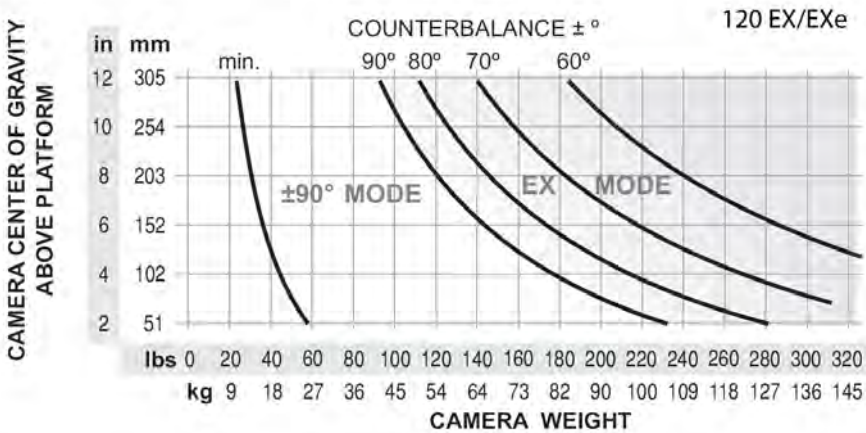

Figure 3 Counterbalance graph
Maximum and minimum payloads that can be balanced—and tilt ranges—are dependent on the weight of the camera and accessories and on the center of gravity (C of G) height. The balance graph (see Figure 3) shows the range of loads and C of G heights that can be maintained in balance. At the lower end of the weight range the full  $\pm 90$  degree tilt range is available, while at the maximum load the tilt range is reduced to  $\pm 60$  degrees.
1. Ensure that the C of G height and the weight of the total payload is within the range for which the head is designed (see Figure 3).
The payload chart (see Figure 3) shows the range of loads and C of G heights that can be maintained in balance. The area between the minimum payload (min.) and 90° lines corresponds to payload/C of G combinations that can be balanced over the full tilt range of  $\pm 90^\circ$ . The area to the right of the 90° line (shaded gray) corresponds to the progressively reducing tilt range with greater load and higher C of G combinations.